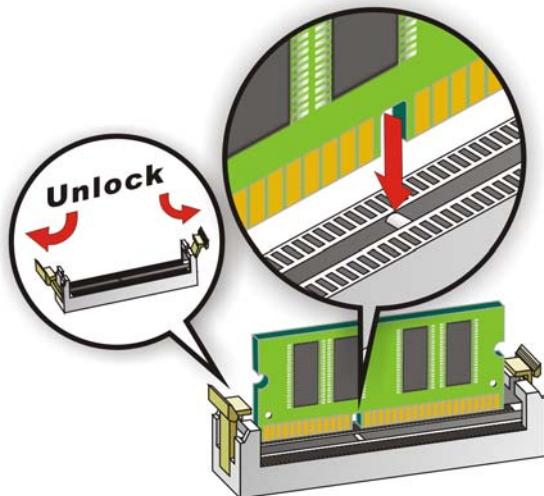

Figure 4-6: SO-DIMM Installation
To install a SO-DIMM, please follow the steps below and refer to **Figure 4-6**.
Step 1: Open the SO-DIMM socket handles. Open the two handles outwards as far as they can. See **Figure 4-6**.
Step 2: Align the SO-DIMM with the socket. Align the DIMM so the notch on the memory lines up with the notch on the memory socket. See **Figure 4-6**.
Step 3: Insert the SO-DIMM. Once aligned, press down until the SO-DIMM is properly seated. Clip the two handles into place. See **Figure 4-6**.